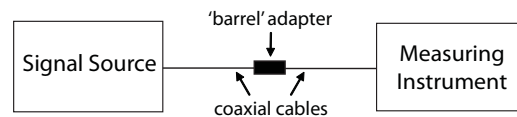

FIGURE 3 - Setup for Reference Measurements (R)
- 1) REFERENCE MEASUREMENTS **(R)** - With the equipment set up as shown in Figure 3, measure and record the signal level (*in dBμV*) at several frequencies over the frequency range to be calibrated.